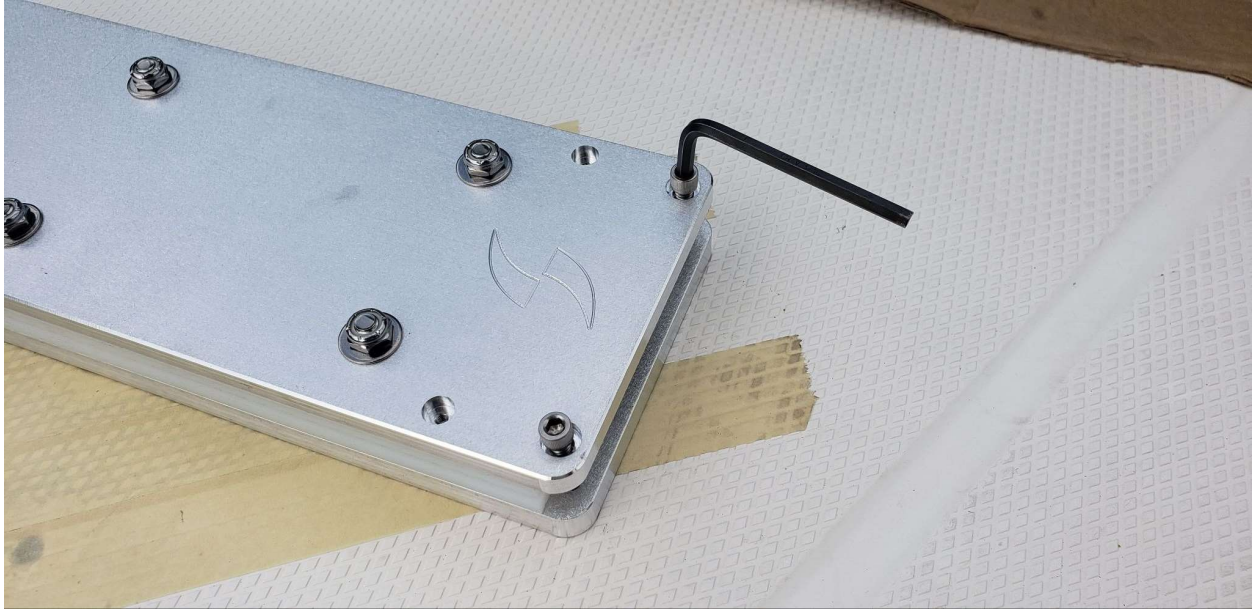

Figure 4.
- Remove the inboard travel stops with a hex key as shown in Figure 4